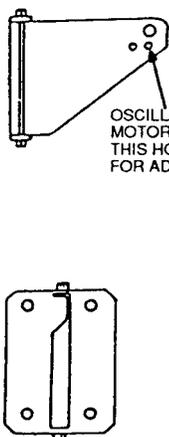

FIG. 1
- G. When mounting oscillator motor and fan assemblies, use only the 1/4" adjustment hole directly below the 1/2" mounting hole on wall mount arm. (Figure 1).